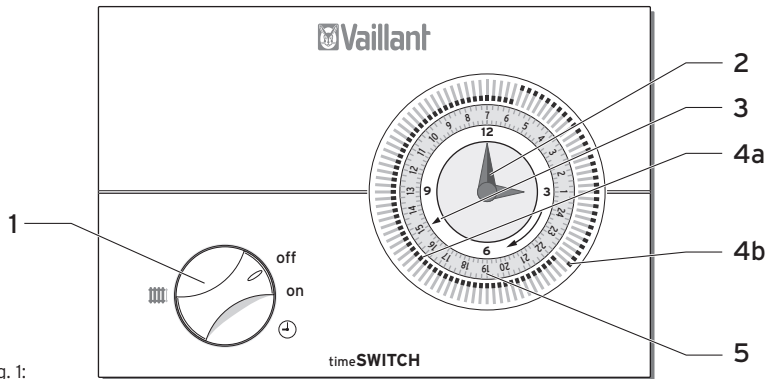

Fig. 1:
e.g. Fig. 1 "15.00"
With the operating mode switch fig. 1 (1), you can change the operating mode of your heating system according to your requirements.